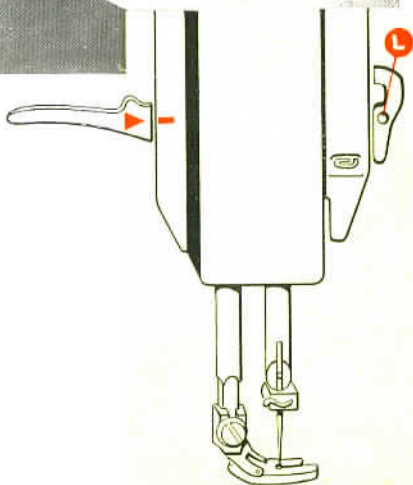

Fig. 21
- 5 Thread the needle by passing upper thread through hole L (Fig. 21).